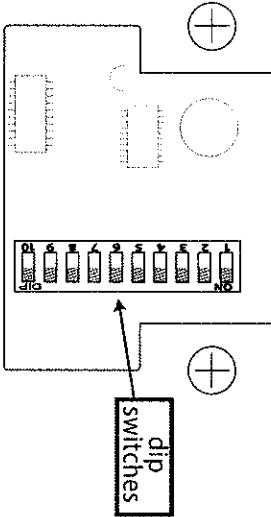

Figure 4
- Set the DIP switches of the keypad to match the DIP switch settings of the receiver, or a functioning transmitter. (see Figure 4)